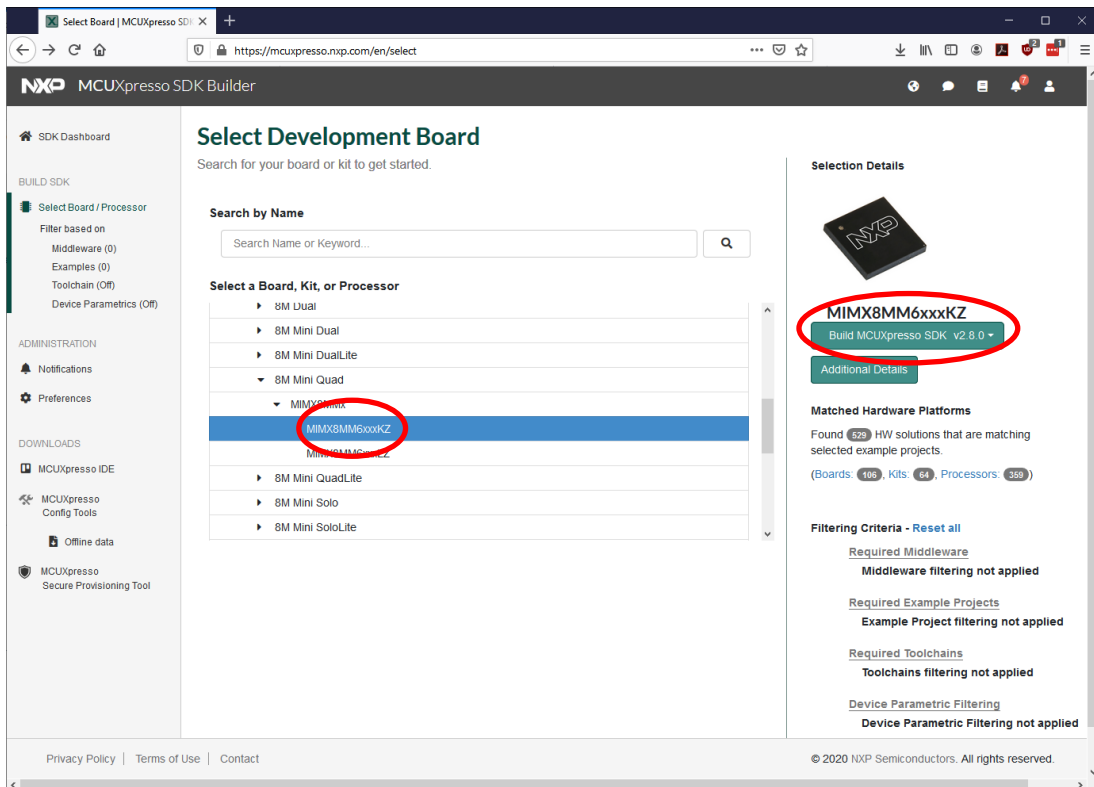

Figure 3 - Select processor (iMX8M Mini in this example)
3. Choose the i.MX processor you are using. In Figure 3 the i.MX 8M Mini is selected.
4. Click "Build MCUXpresso SDK". This button is shown to the right in Figure 3.